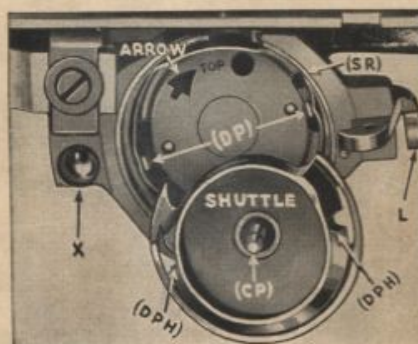

Fig. 8
See Figs. 7-8. With the head tipped back on its hinges, turn the disc wheel by hand until the point of the needle just enters the needle plate hole and so the arrow and the word "top" is exactly in the position shown (Fig. 8). With the thumb and first finger of the left hand take hold of the center pin (CP) and hold the shuttle exactly in the position as shown in Fig. 8, so the word "top," stamped on shuttle, lines up with the word "top" in driver, then the driving pin holes (DPH) will slide